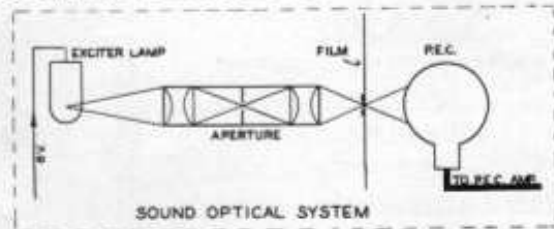

FIG. 4
**Sound-On-Film, Principal of Operation:** The film leaves the upper magazine and enters the scene projector, where the light from the projection lamp projects the picture through a lens to the screen. As the film leaves the projection mechanism, it enters the sound compartment where an intense beam of light from the exciter lamp is concentrated by an optical system containing a slit which brings the light to focus as a fine line across the sound track (Fig. 4). The film moves evenly from the sound compartment to the take-up magazine at the same speed that is used in recording the sound, i.e., 90 feet per minute.
Adjustment: The exciter lamp should be adjusted to produce a bright, clear rectangle of light on the aperture slit of the lens tube (Fig. 4). On pushing back the tension pad of the light shield and holding a white card in front of the aperture, an oval spot of light